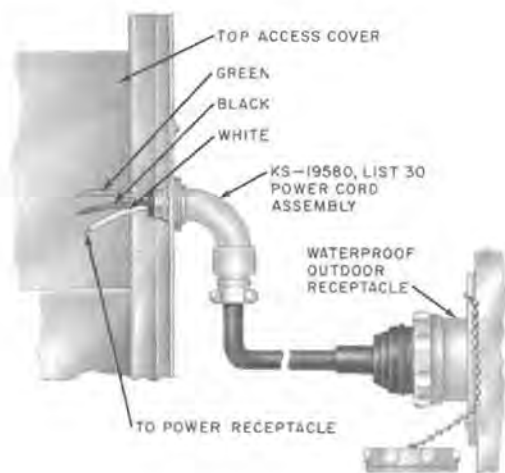

Fig. 18—KS-19580, List 30 Power Cord Assembly Overhead Entrance
- 3.10** For overhead entrance with plug-in features, use KS-19580, List 30 power cord assembly and install per Fig. 18.